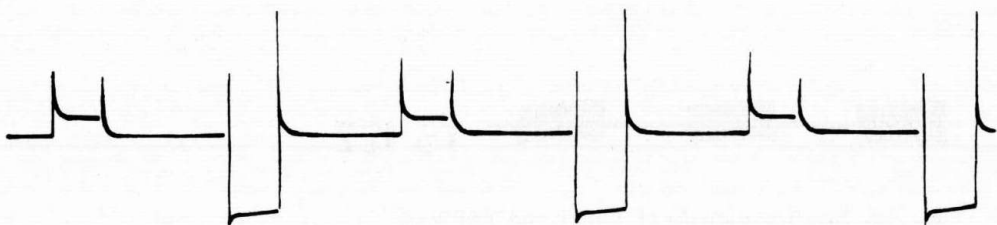

Fig. 45. Collector signal of TS113
- Check the lamp voltage on the collectors of TS113 and TS114 (see Fig. 45). When a lamp is defective, the waveform will deviate.
To facilitate fault-finding in the digital section, the fault-finding system of Fig. 45 may be used. This series of measurements is the most efficient method to trace the defective section. The individual tests are further described in the instructions below.